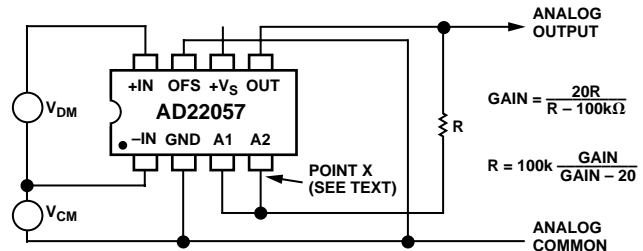
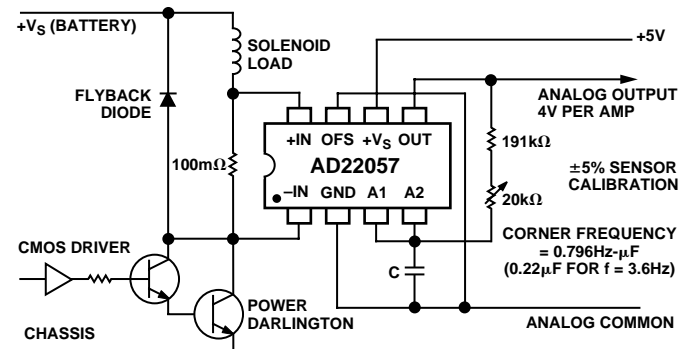

Figure 5. Achieving Gains Greater Than  $\times 20$
Figure 10. Current Sensor Interface. Gain Is ×40, Single-Pole Low-Pass Filtering
**Increasing the Gain.** The gain can be raised by connecting a resistor from the output of the buffer amplifier (Pin 5) to its noninverting input (Pin 4) as shown in Figure 5. The gain is now multiplied by the factor  $R/(R-100\text{k})$ ; for example, it is doubled for  $R = 200 \text{ k}\Omega$ . Overall gains of up to  $\times 160$  ( $R = 114 \text{ k}\Omega$ ) are readily achievable in this way. Note, however, that the accuracy of the gain becomes critically dependent on resistor value at high gains. Also, the effective input offset voltage at Pins 1 and 8 (about six times the actual offset of A1) limits the part's use in very high gain, dc-coupled applications. The gain may be trimmed by using a fixed and variable resistor in series (see, for example, Figure 10).
Once again, a small offset voltage will arise from an imbalance in source resistances and the finite bias currents inherently present at the input of A2. In most applications this additional offset error (about  $130 \mu\text{V}$  at  $\times 40$ ) will be comparable with the specified offset range and will therefore introduce negligible skew. It may, however, be essentially eliminated by the addition of a resistor in series with the parallel sum of R and  $100 \text{ k}\Omega$  (i.e., at "Point X" in Figure 5) so the total series resistance is maintained at  $100 \text{ k}\Omega$ . For example, at a gain of  $\times 30$ , when  $R = 300 \text{ k}\Omega$  and the parallel sum of R and  $100 \text{ k}\Omega$  is  $75 \text{ k}\Omega$ , the padding resistor should be  $25 \text{ k}\Omega$ . A  $50 \text{ k}\Omega$  pot would provide an offset range of about  $\pm 2.25 \text{ mV}$  referred to the output, or  $\pm 75 \mu\text{V}$  referred to the attenuator input. A specific example is shown in Figure 12.
If the gain is raised using a resistor, as shown in Figure 5, the corner frequency is lowered by the same factor as the gain is raised. Thus, using a resistor of 200 kΩ (for which the gain would be doubled) the corner frequency is now 0.796 Hz-μF, (0.039 μF for a 20 Hz corner).
A typical automotive application making use of the large common-mode range is shown in Figure 10.
An ac excitation of up to  $\pm 2$  V can also be used because the common-mode range of the AD22057 extends to  $-1$  V. Assuming a full-scale bridge output ( $V_G$ ) of  $\pm 10$  mV, a gain of  $\times 100$  might be used to provide an output of  $\pm 1$  V (a full-scale range of +1.5 V to +3.5 V). This gain is achieved using the method discussed in connection with Figure 5. Note that the gain-setting resistor does not affect the accuracy of the midscale offset. (However, if the gain were lowered, using a resistor to ground, this offset would no longer be accurate.) A  $V_{OS}$  nulling pot is included for illustrative purposes. One-, two- and three-pole filtering can also be implemented, as discussed in the Low-Pass Filtering section.